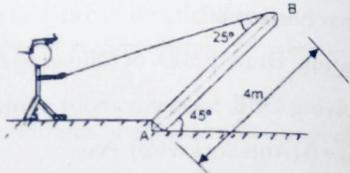

Fig 2.35
- 3) A man raises a 10 Kg joist of length 4 m by pulling on a rope as shown in fig 2.35. Find the tension 'T' in the rope & reaction at 'A'. (Ans: $T_A=81.98N$, $H_A=77.03N$, $V_A=126.03N$)
- 6) A bar is hinged at 'A' and rests on cylinder at 'C'. The center of cylinder is connected to the bar by a horizontal wire OE as shown in fig 2.35. Determine i) Reaction at A, ii) Tension in wire, iii) Reaction at C & D. Neglect weight of bar & assume smooth surfaces. (Ans: $V_A = 79.3N(\downarrow)$, $H_A = 0$, $T = 551.7N$, $R_C = 800N$, $R_D = 779.34N$)